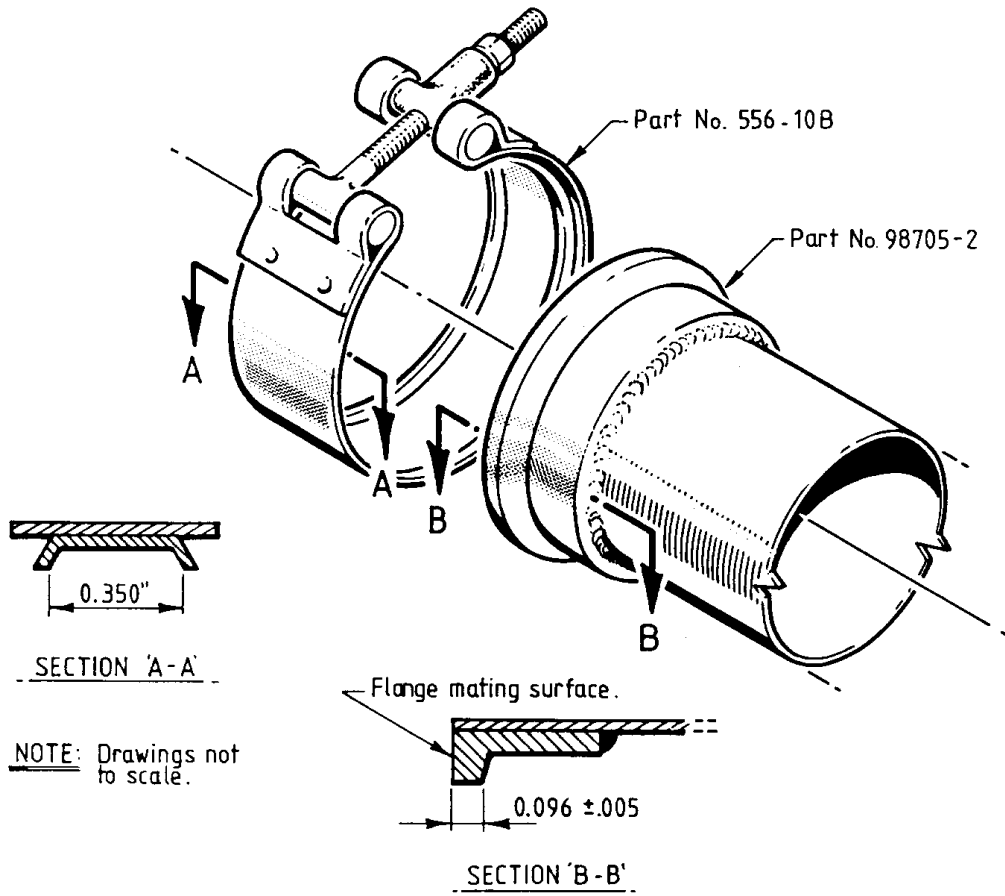

FIG. 1.
3. Measure width across inside opening of coupling retainer segments. Maximum allowable dimension is 0.350 inches (See Figure 1.).
4. Measure thickness of tailpipe flange at apex. Dimension required is 0.096 inches plus or minus 0.005 inches (See Figure 1.).
5. If flange dimension is under the tolerance shown in (4) above, replace tailpipe. If over tolerance, rework the flange mating surface to dimensions in (4) above, provided 0.005 inches flatness is maintained, or replace with serviceable part.